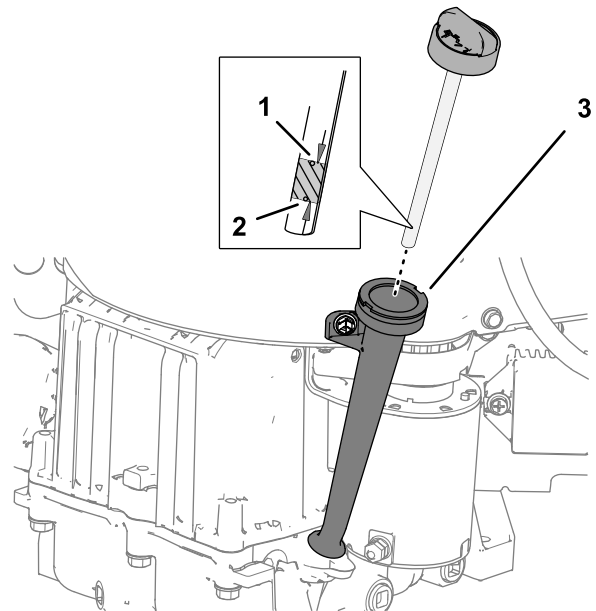

**Figure 77**
2. Slowly pour 1.6 L (56 fl oz) of the specified oil into the filler neck (Figure 77) of the engine; refer to Engine Oil Specification \(page 53\).